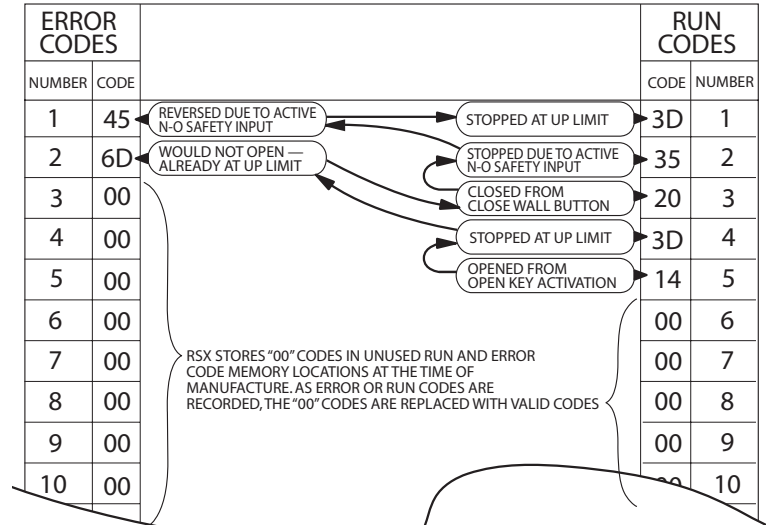

Figure 5
TROUBLESHOOTING EXAMPLE USING RUN AND ERROR CODE MEMORIES. Fig. 5
2. List as shown in Fig. 5.